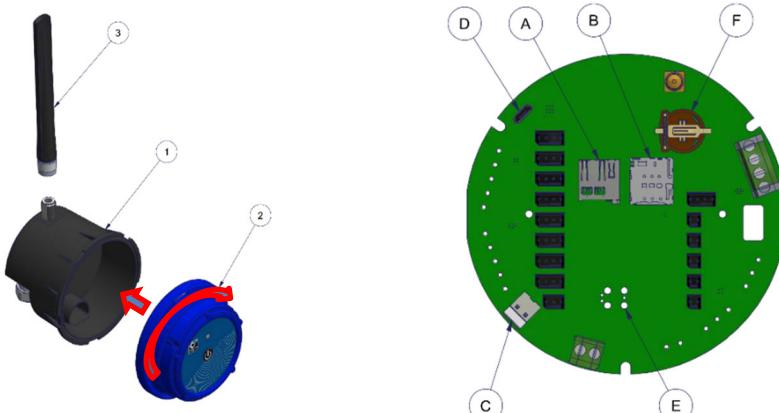

Figure 3 Body (1) and head (2) assembly
1. Connect the antenna (3) to the product (if present) (1).
2. Insert the SIM card in the base (if present) (B).
3. Close the body (1) by rotating the head (2), see Figure 3 below.  **Do not force closure!** If the two parts of the housing cannot be fit together properly, make sure there is no pinched cable or dust.